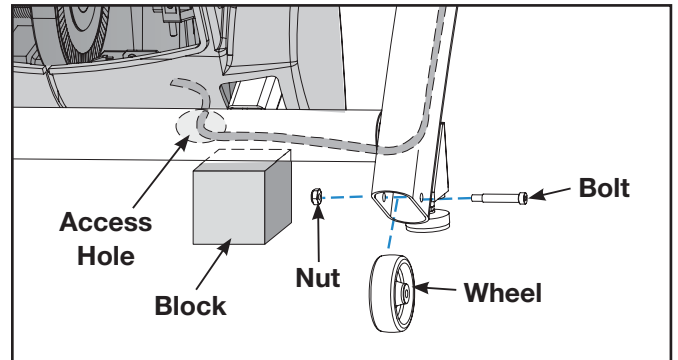

Figure 7
- A. Place a block under the unit as shown in Figure 7.
- B. Using a 7/16" wrench and a 5/32" Allen wrench, remove the bolt and nut securing the left wheel in place and remove the wheel. See Figure 7.